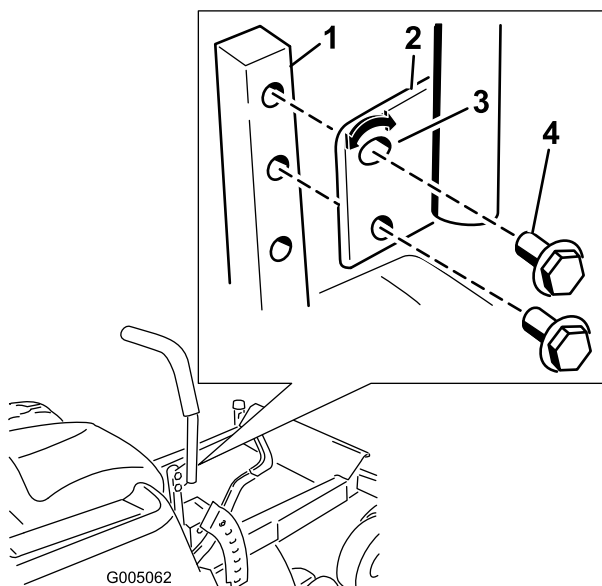

Figure 20
1. Remove the 2 bolts holding the control lever to the control arm shaft (Figure 20).
2. Move the control lever to the next set of holes. Secure the lever with the 2 bolts (Figure 20).
2. Loosen the lower bolt just enough to pivot the control lever fore or aft (Figure 20). Tighten both bolts to secure the control in the new position.